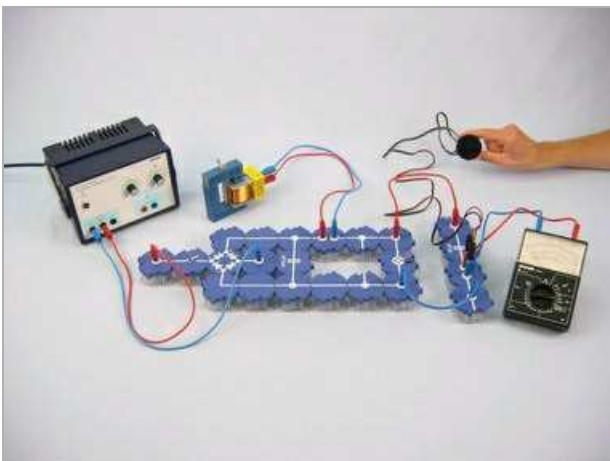

Fig. 5
- Place the U-core in the coil, lay the I-core on top, and secure it with the tightening screw, as shown in Fig. 5. Repeat observations and measurements.